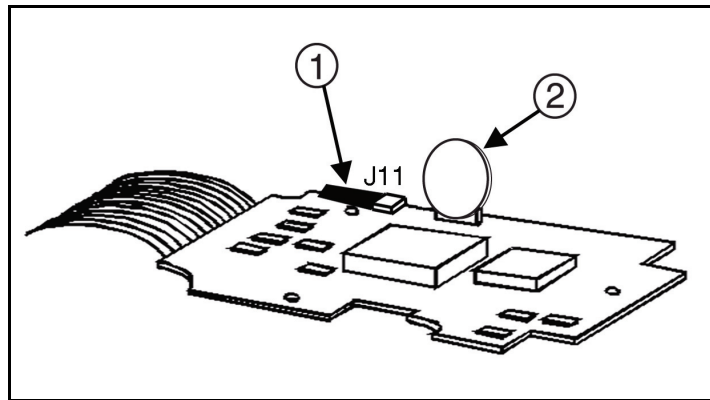

Figure 6-8. Backup Battery Replacement
2. Refer to Figure 6-8. On the Primary PCB, ensure the 2-pin jumper (1) has been removed from connector J11, located next to the Backup Battery (2).